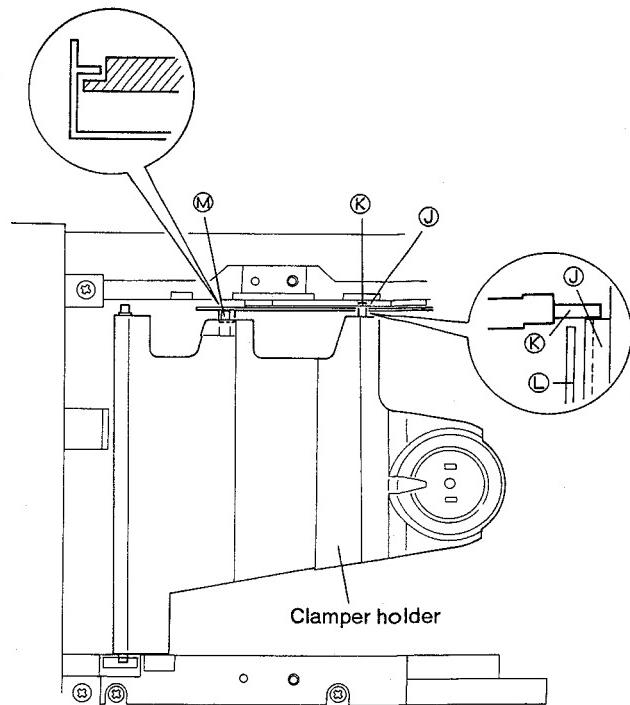

Fig. 10-18.
Only during clamping (tray at play position), clamper holder stops in the state that the ⑧ section of clamper holder is positioned over the upper surface section ① of the gear on loading base, as shown in Fig 10-18.
A stopper to prevent up/down movement is attached at section M of the slid angle U in Fig. 10-18 to prevent clamper holder from moving up or down due to vibration during transport.